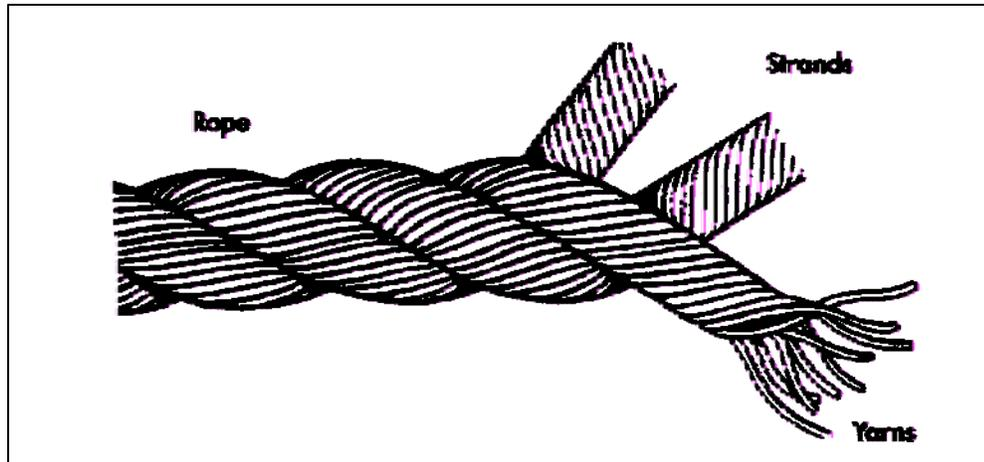

Figure 5.2-2 - Rope Construction
- e. As the rope is laid up, its length contracts like a coiled spring, giving it a certain elasticity. The harder the twist given to the strands in laying, the shorter will be the resultant rope. Thus, a rope is said to be hard-laid, ordinary-laid or soft-laid rope. In practice, three strands of 275 m in length lay up into a rope of about 220 m in length. Three strands so laid up constitute a hawser-laid rope (Fig 5.2-2). Right-handed hawser-laid rope is the only type of natural fiber cordage now used in the Canadian Navy.
- e. **Hawser-laid.** Hawser-laid, man-made fiber ropes are manufactured in the same manner as natural fiber ropes; that is, three strands laid up with a right-hand twist (Fig 5.2-2). Each strand is composed of a sufficient number of uniform filaments of specified polymer to give the rope the required strength. A higher twist is imparted to the man-made strands than to those of natural fiber, and the ropes are subjected to a form of heat treatment to stabilize the lay and thereby reduce the tendency of the strands to separate in service. It is important that the twist and balance of the lay should be undisturbed, especially when being spliced.